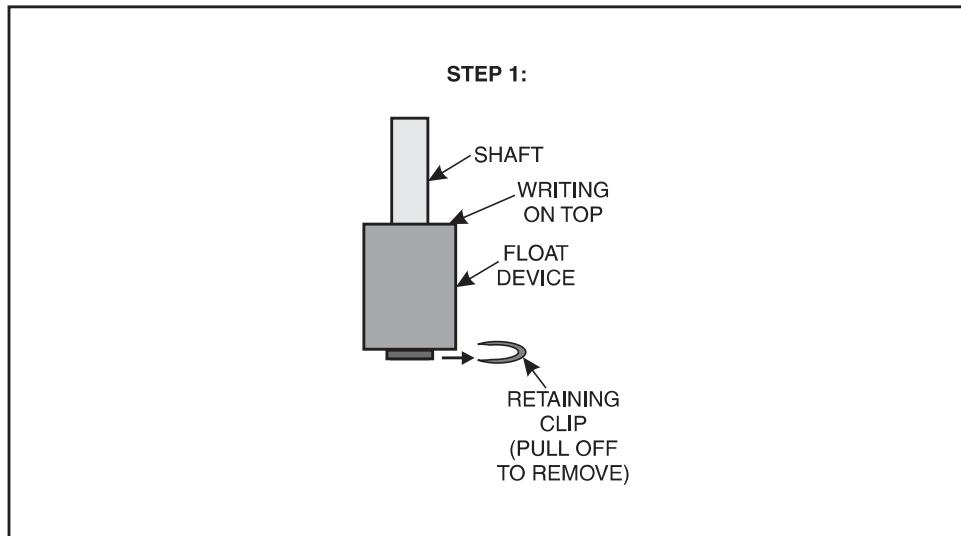

Figure 1-6. Location of Retaining Clip
A. Locate and remove the retaining clip by pulling it off, as shown in figure 1-6, with needle nose pliers.